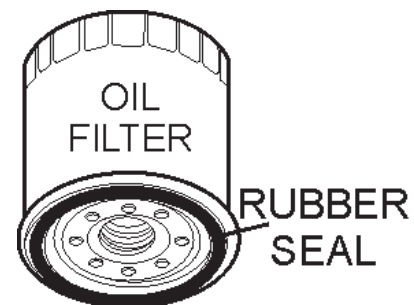

**Figure 32. Draining Engine Oil**
1. Drain the engine oil when the oil is warm as shown in (Figure 32).